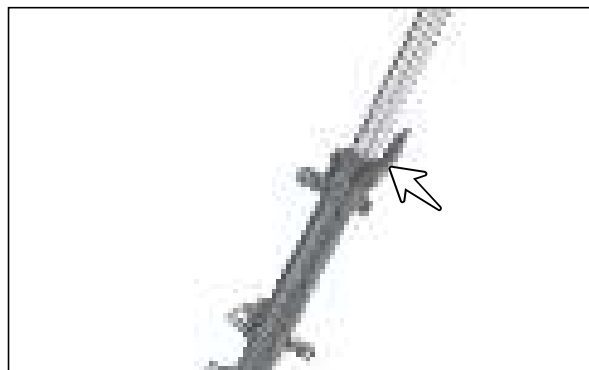

Fig. 6.57
- Remove cover front tube. (Fig. 6.57)